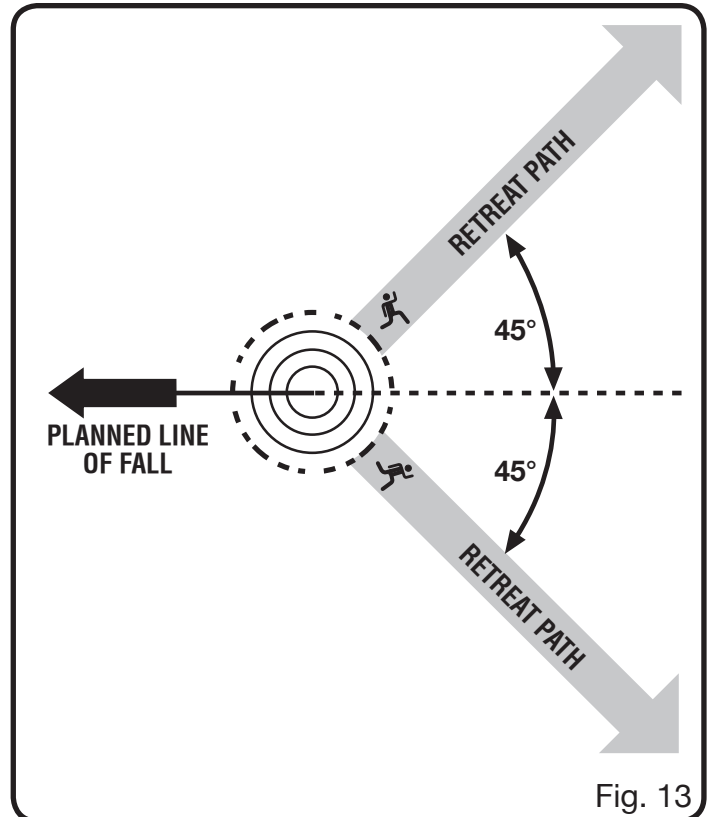

Fig. 13
See Figures 13 - 16.
- Before any cuts are started, pick your escape route (or routes in case the intended route is blocked); clear the immediate area around the tree and make sure there are no obstructions in your planned path of retreat. Clear paths of safe retreat should extend back and diagonally (45°) to the rear of the planned line of fall. When the tree begins to fall, you should retreat away from the direction of fall along a retreat path and at least 20 feet away from the trunk in case it kicks back over the stump. See Figure 13.